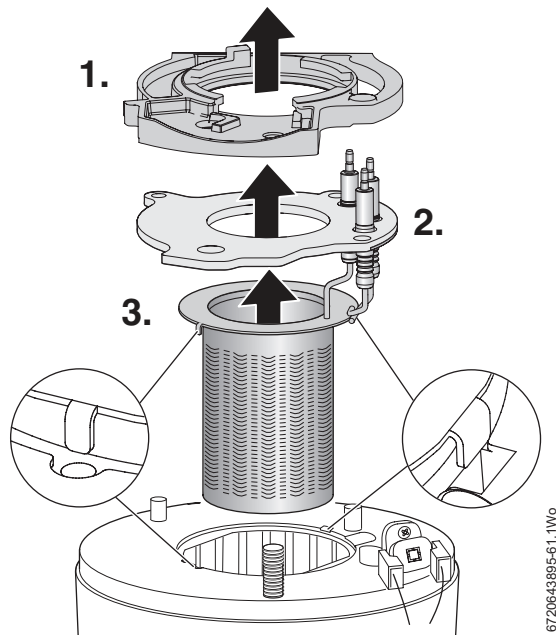

Fig. 102 Electrode assembly and burner
Refer to figure 102.
- ▶ Ensure that burner tabs, as shown in figure 102, fit correctly their respective locations.